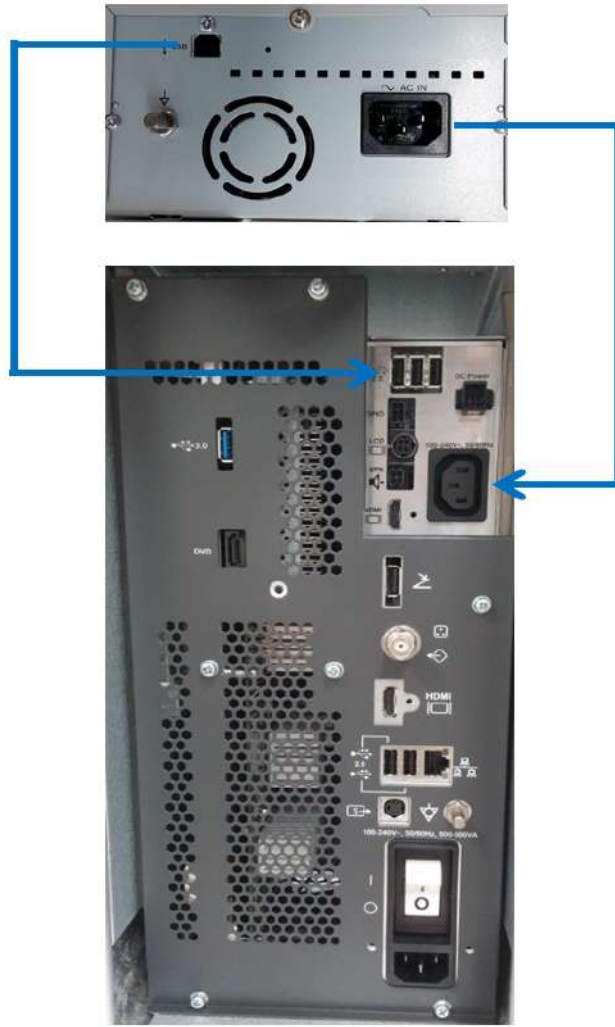

Figure 3-6 B&W Printer connection (R1 to R3)
- 2) Connect the Black & White printer according to correct connection scheme as described in Figure 3-6 on page 3-14.